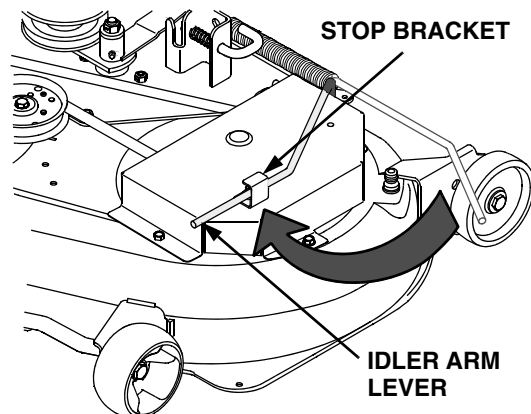

Figure 37
15. While holding the belt in position, rotate the deck idler arm lever into its stop bracket to tension the PTO belt (Refer to Figure 37). Make certain the PTO belt is properly positioned in the PTO clutch pulley and both lower front pulleys. Reposition if necessary.